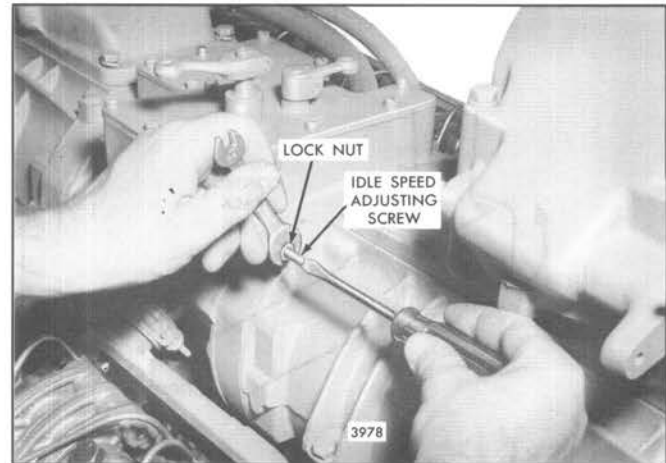

Fig. 9 – Adjusting Engine Idle Speed
1. With the engine running, at normal operating temperature and with the buffer screw backed out to avoid contact with the differential lever, turn the idle speed adjusting screw (Fig. 9) until the engine is operating approximately 15 rpm below the recommended idle speed. The recommended idle speed is 400–450 rpm but may vary with certain engine applications.